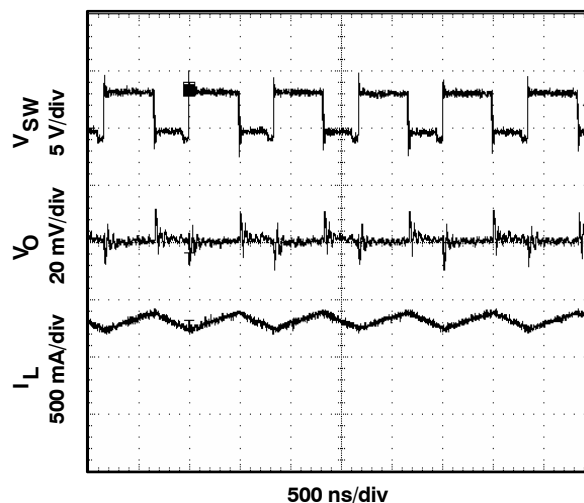
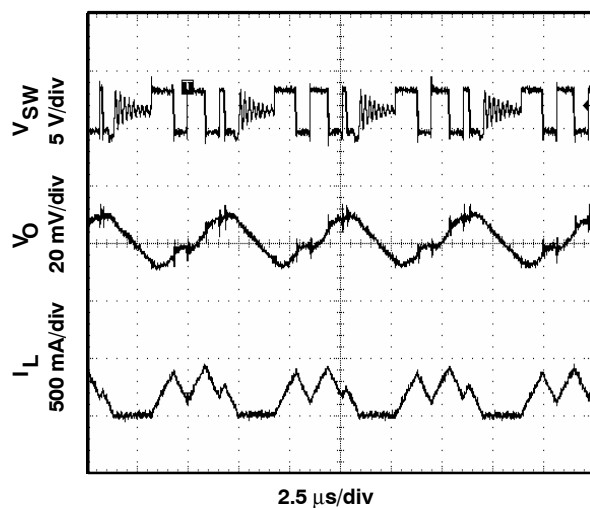
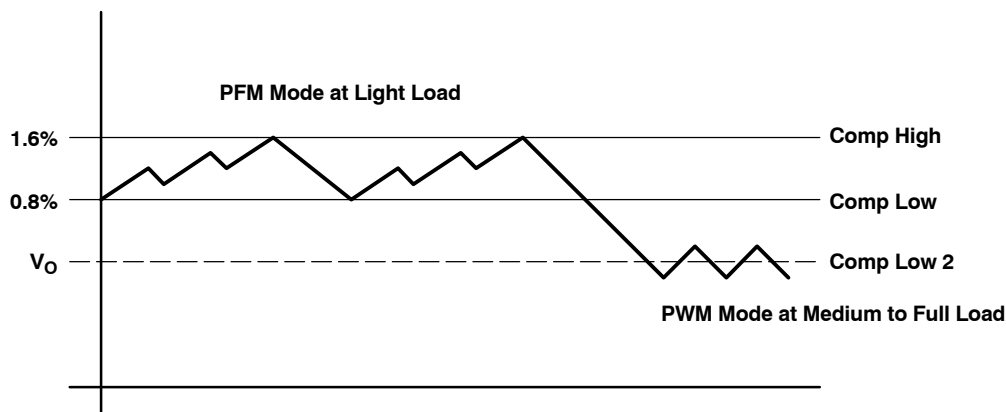

Figure 11
Figure 12
Figure 14. Power Save Mode Thresholds and Dynamic Voltage Positioning
During power save mode the output voltage is monitored with the comparator by the threshold's comp low and comp high. As the output voltage falls below the comp low threshold set to typically 0.8% above the nominal output voltage, the P-channel switch turns on. The P-channel switch remains on until the transition current (1) is reached. Then the N-channel switch turns on completing the first cycle. The converter continues to switch with its normal duty cycle determined by the input and output voltage but with half the nominal switching frequency of 625-kHz typ. Thus the output voltage rises and as soon as the output voltage reaches the comp high threshold of 1.6%, the converter stops switching. Depending on the load current, the converter switches for a longer or shorter period of time in order to deliver the energy to the output. If the load current increases and the output voltage can not be maintained with the transition current, equation (1), the converter enters PWM again. See Figure 11 and Figure 12 under the typical graphs section and Figure 14 for power save mode operation. Among other techniques this advanced power save mode method allows high efficiency over the entire load current range and a small output ripple of typically 1% of the nominal output voltage.
Setting the power save mode thresholds to typically 0.8% and 1.6% above the nominal output voltage at light load current results in a dynamic voltage positioning achieving lower absolute voltage drops during heavy load transient changes. This allows the converter to operate with small output capacitors like 22  $\mu$ F and still having a low absolute voltage drop during heavy load transient. Refer to Figure 14 as well for detailed operation of the power save mode.
As described in the power save mode operation sections before and as detailed in Figure 14 the output voltage is typically 0.8% (i.e., 1% on average) above the nominal output voltage at light load currents, as the device is in power save mode. This gives additional headroom for the voltage drop during a load transient from light load to full load. In the other direction during a load transient from full load to light load the voltage overshoot is also minimized by turning on the N-Channel rectifier switch to pull the output voltage actively down.